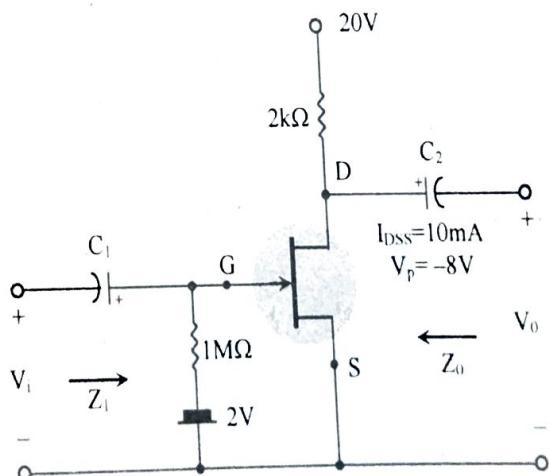

Figure 2
e) The Fixed Bias circuit has operating point defined by $V_{gs} = -2V$, $I_{D_0} = 5.625\text{ mA}$ as shown in Figure 2. If the output conductance is $40\text{ }\mu\text{S}$ then find the following: